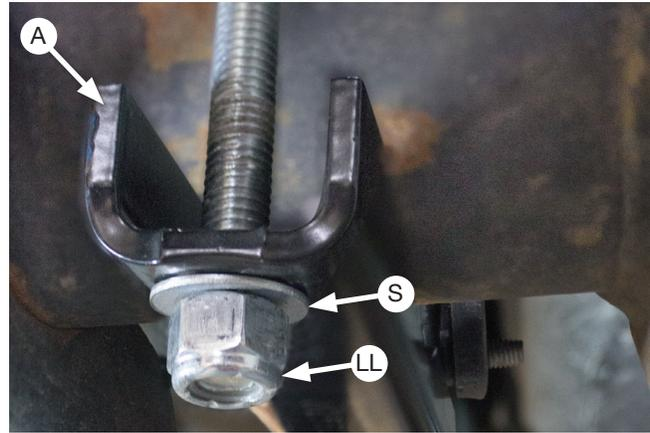

Fig. 43
If you have a sway bar, insert the carriage bolts through the clamp bar (A) as you set the assemblies into position over the axle (see Fig. 43).
- If not already completed (sway bar noted earlier), set the lower clamp bars (A) over the carriage bolts located under the axle (Fig. 43). Attach with 3/8" flat washers (S) and nylon lock nuts (LL). Evenly torque the lower clamp bar hardware to 16 lb.-ft. (22Nm).